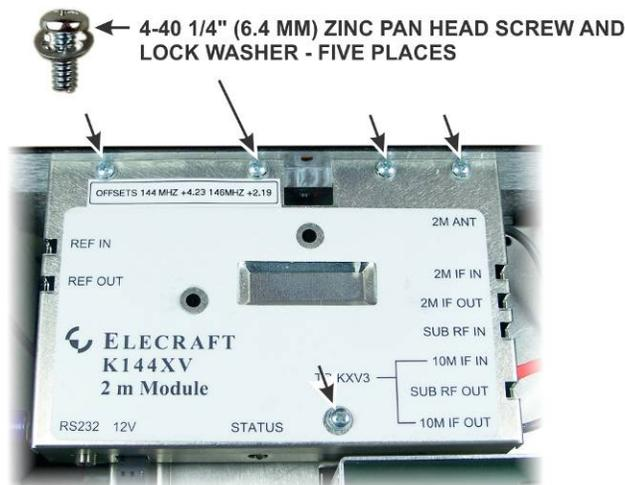

Figure 3. Removing the K144XV 2 Meter Module.
The K144XV module is mounted on the left side panel of the K3. Remove the five screws shown in Figure 3 and lift the top cover off of the module. Note: Some units may have a sixth screw in the hole near the Elecraft name on the top cover that must be removed.
- Mount the K144XV module on the K3 side panel with the three 6-32 flat head screws you removed earlier (see Figure 3). The top cover should still be loose from when you removed it.